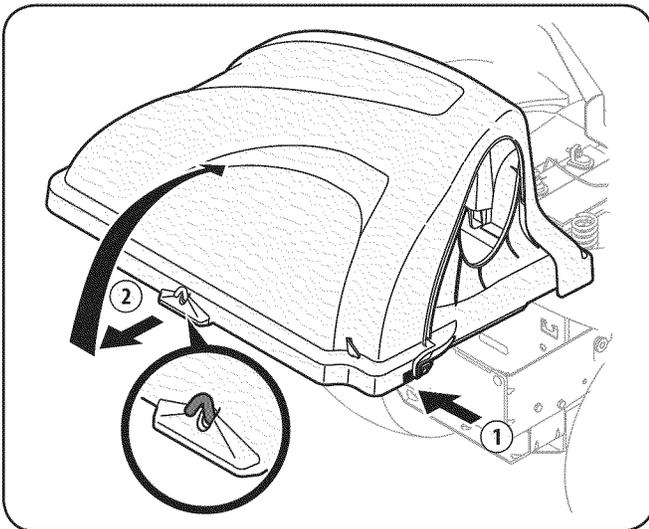

Figure 4-13
7. Open hood by pushing in on the rear, right-side tab with your right hand, as seen in 1 of Fig. 4-13, and lifting the cover with your left hand in the center rear of the bagger cover, 2.